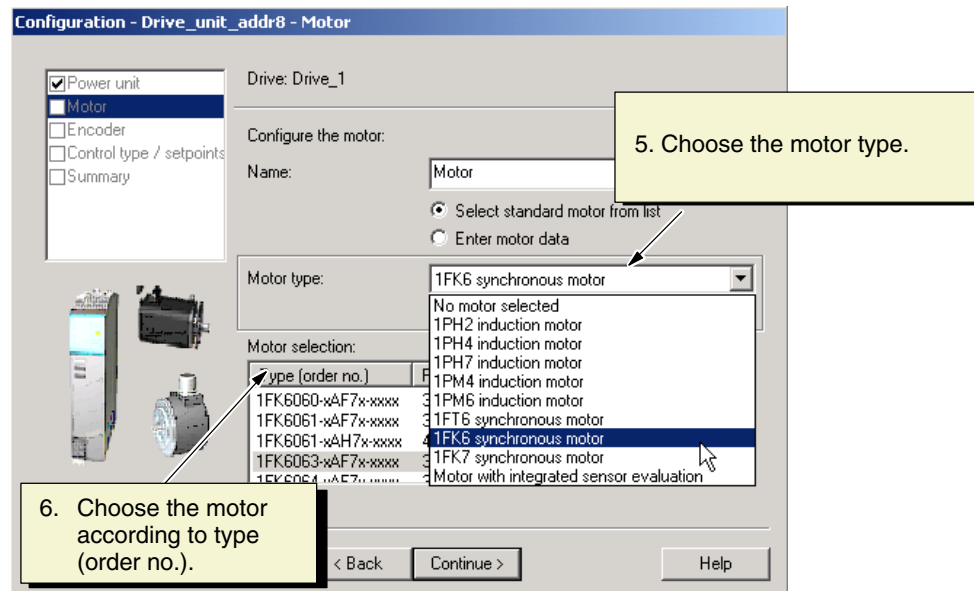

Fig. 5-15 Motor configuration
4. Work through the Wizard by choosing **Continue >** until you reach the point at which you configure the motor (see Fig. 5-15).